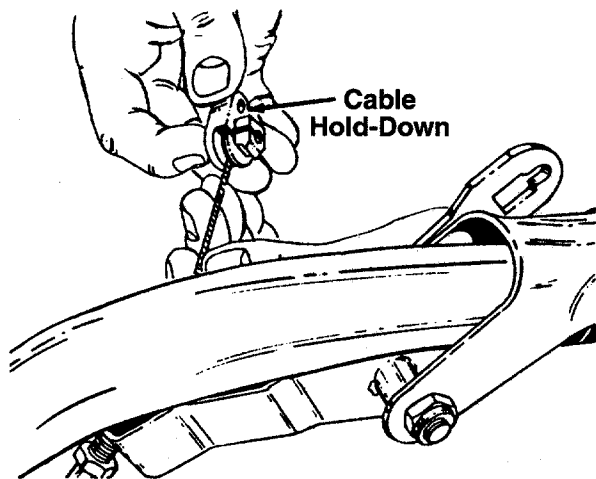

FIGURE 5.
3. Hook the barrel end of the cable into the cable hold-down. Slide the cable around in the slot as shown in figure 5.